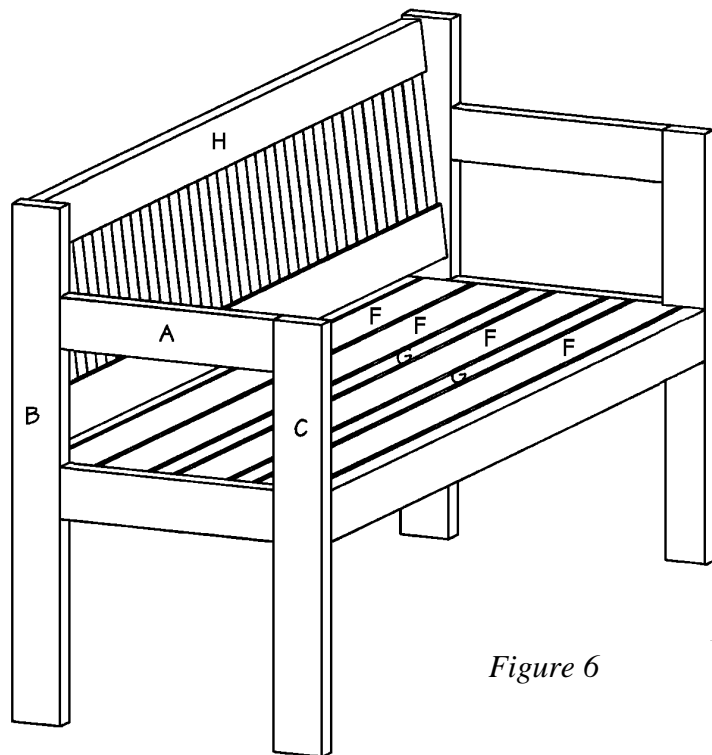

Figure 6
1. The sofa seat is comprised of two different widths of wood that are alternated. Cut four wide slats (F) from 1 x 4 pine, each measuring 59 inches.
2. Cut two narrow slats (G) from 1 x 2 pine, each measuring 59 inches.
3. Begin by placing a wide slat (F) over the seat supports (E) on the front of the sofa. Then place a narrow slat (G) next to it. Continue alternating the wide and narrow slats, ending with two wide slats (F) at the back of the sofa, as shown in *Figure 6*. Adjust the spacing so that the slats are approximately  $\frac{3}{8}$ -inch apart. Nail through each of the slats (F and
G) into the seat supports (E), securing each of the slats to one of the seat supports (E). Use two 1-1/2"-long nails on each joint.
6. It is now time to fit the back assembly between the two sides. To make the sofa more comfortable, the back assembly is tilted at an angle—out at the top and in at the bottom. The tilt angle is determined by the width of the 2 x 4 on the side assemblies. The lower edge of the back is fitted flush with the inside edge of the long vertical sides (B); the upper edge of the back is fitted flush with the outer edge of the long vertical sides (B), as shown in *Figure 6*. When you have the back fitted perfectly, secure the assembly with bar clamps. Screw through the long vertical sides (B) into the ends of the horizontal backs (H), using two 3-1/2" nails on each joint.